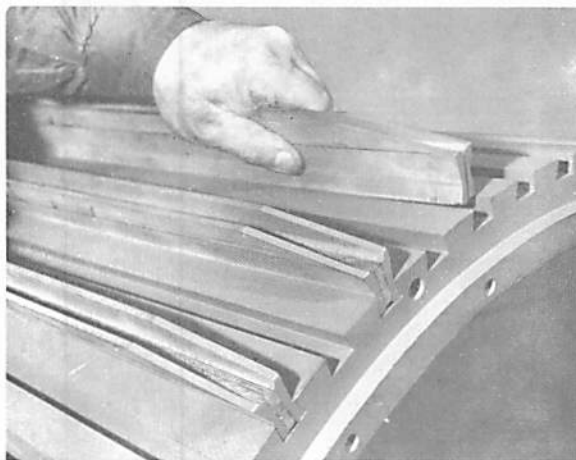

Fig. 2 Installing a Pair of Bars in the Slot
2. Insert a pair of long bars in the slot as shown in Figure 2 and butt them against the end plate. Separate the bars so the angle side of the bar matches the slot side, then insert the Duroid filler piece between the bars and drive to the bottom of the slot using a piece of $\frac{3}{16}$ " plate and a hammer as shown in Figure 3. Note that the Duroid filler strip has an entrance bevel cut at the bottom edge to provide easy access for stripping. Be sure this edge contacts the bottom of the slot.